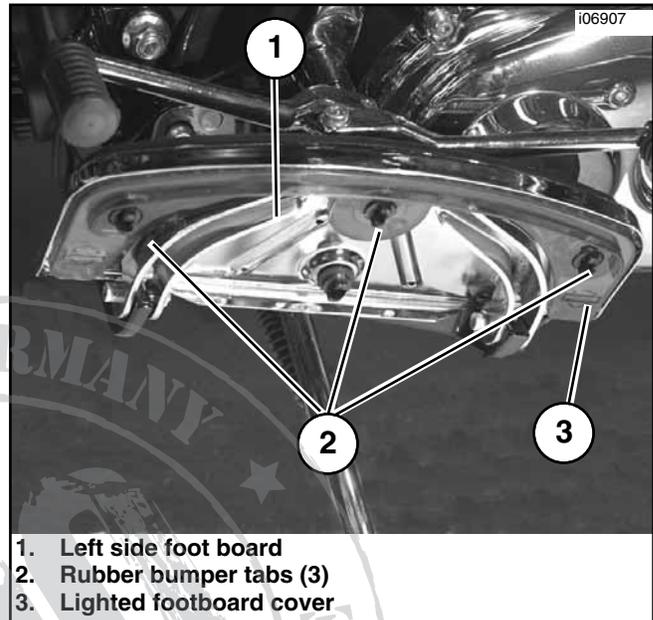

Figure 1. Lighted Footboard Cover Installation
1. See Figure 1. Starting with the left side footboard (1), tilt footboard to the upright position for access to bottom of footboard.
2. Using a window cleaning solution, spray the three rubber bumper tabs (2) protruding through the bottom of the footboard.